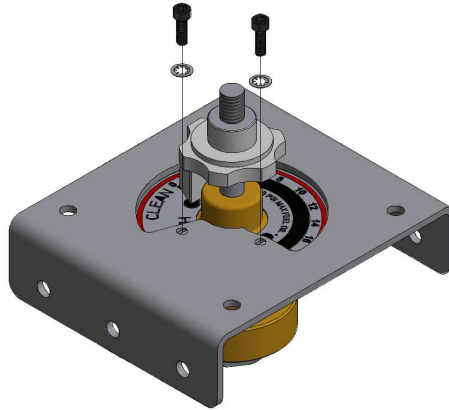

Figure 4: Bracket / Valve Assembly
- Slide the valve mounting bracket over the valve stem and line up the two small holes in the mounting bracket with the two threaded holes in the valve. Using the 9/64" hex key, the (2) #8-32 x 1/2" socket head cap screws, and the (2) #8 internal tooth lock washers, fasten the valve mounting bracket to the valve as shown in Figure 4. The screws should go through the wave washers that were used in the previous step.